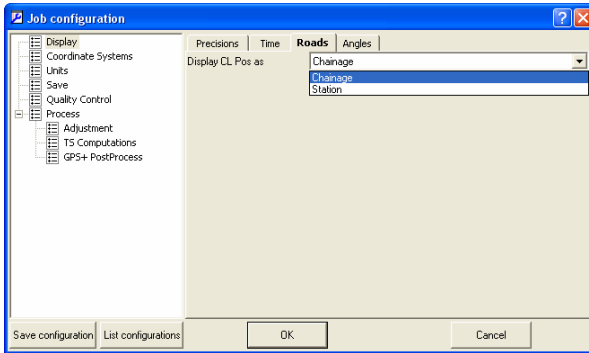

Figure 2-13. Job Configuration – Roads Tab
- The Roads tab (Figure 2-13) sets the type of number to use for the centerline position.